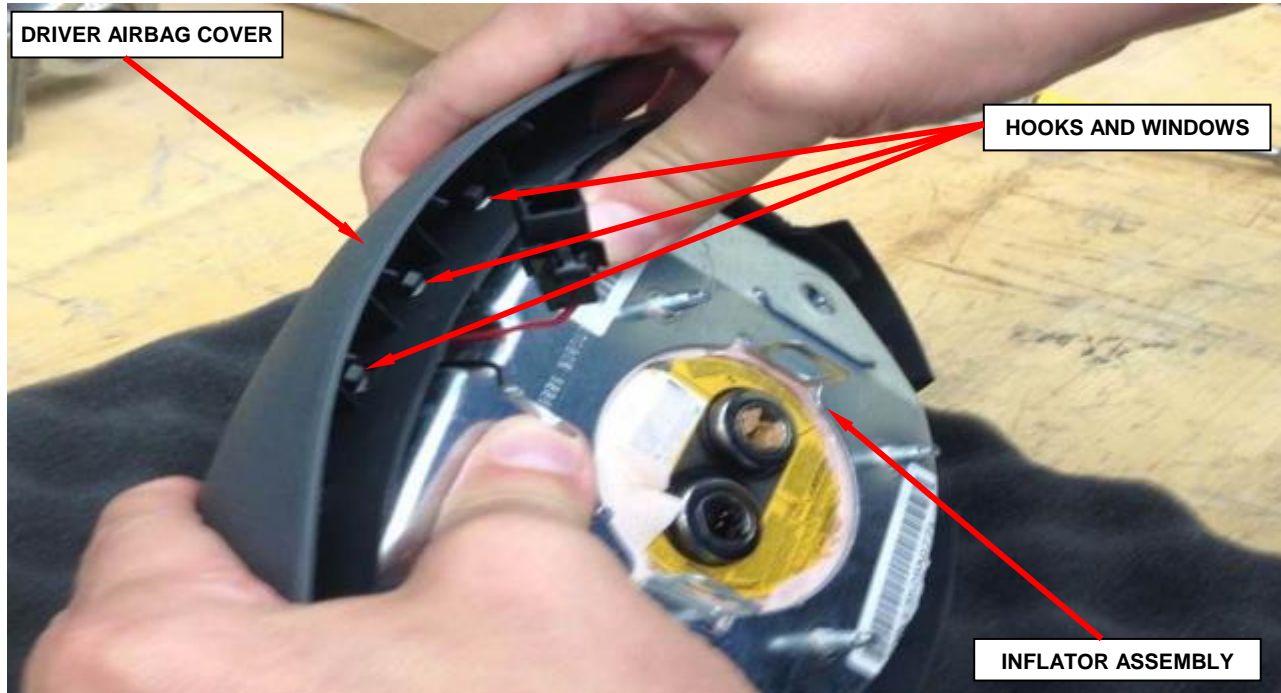

Figure 7 - Top Driver Airbag Cover to Inflator Assembly Hooks
12. Unsnap the top hooks by pressing down on the inflator assembly until the hooks unsnap from the airbag cover windows (Figure 7).